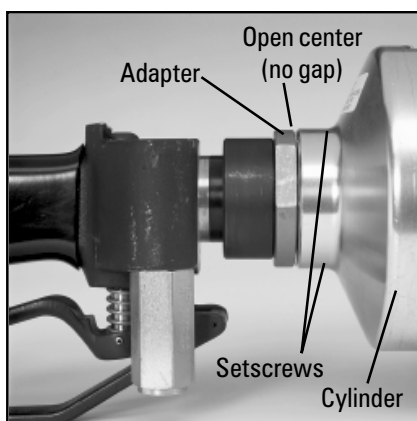

Figure 4-1. OC/CC adjustment.
- open center—no gap (Figure 4-1)